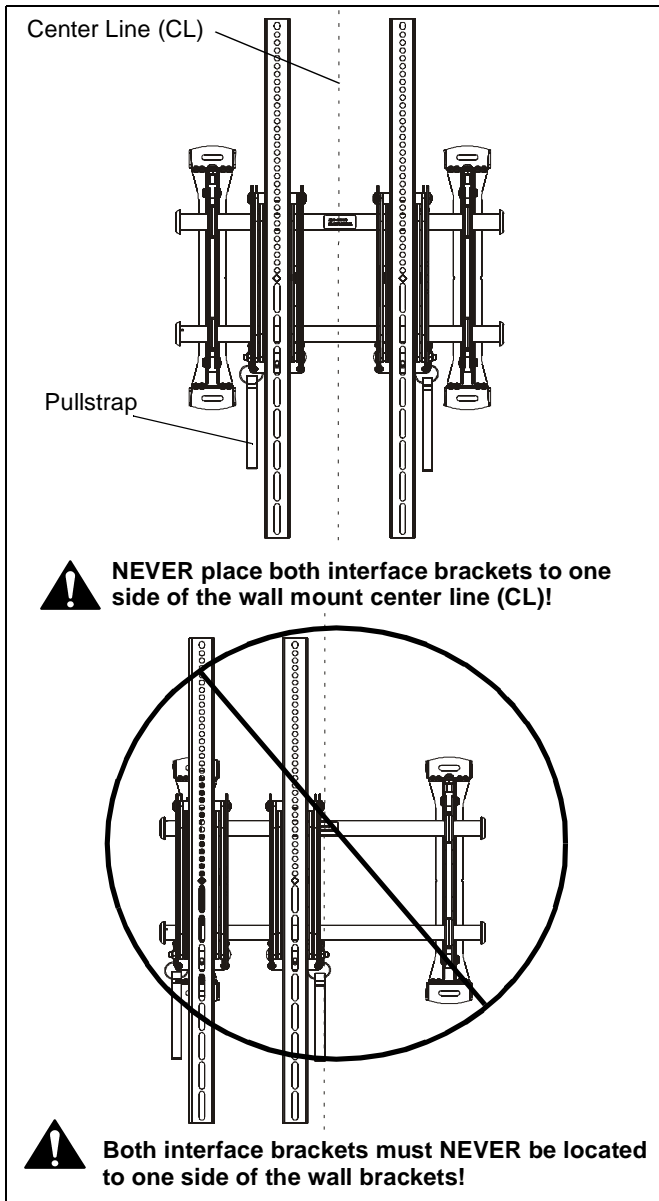

Figure 11
- Adjust Velcro® pull strap (if necessary) so it does not extend beyond bottom of screen. (See Figure 11)
NOTE: Do NOT allow both interface brackets (U and V) to be located on same side of wall bracket. (See Figure 11)
NOTE: NEVER place both interface brackets (U and V) to one side of the wall mount center line! (See Figure 11)